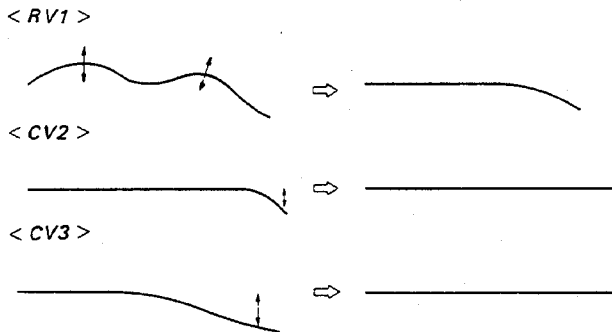

Fig. 5-2
- Adjust RV1, CV2 and CV3 of the BG board so that the output waveform becomes flat in a range of 0 to 10MHz as shown in Fig. 5-2. (within  $0 \pm 0.5\text{dB}$ )